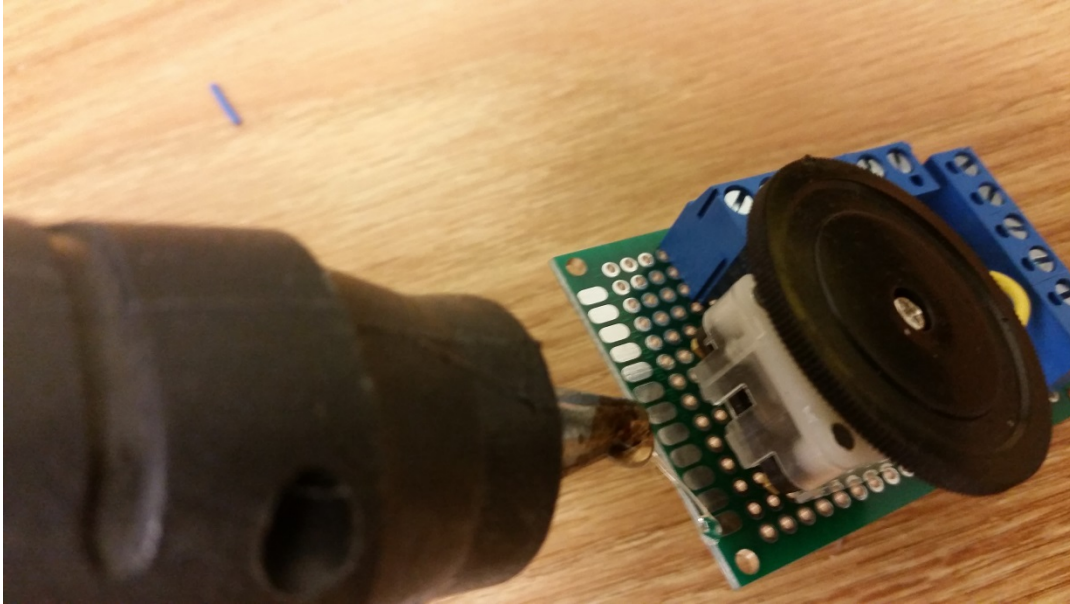

Figure 8: Gluing tuning capacitor to board using hot glue gun
8. Using a hot glue gun, glue the bottom of the tuning capacitor to the top of the protoboard (Fig 8)